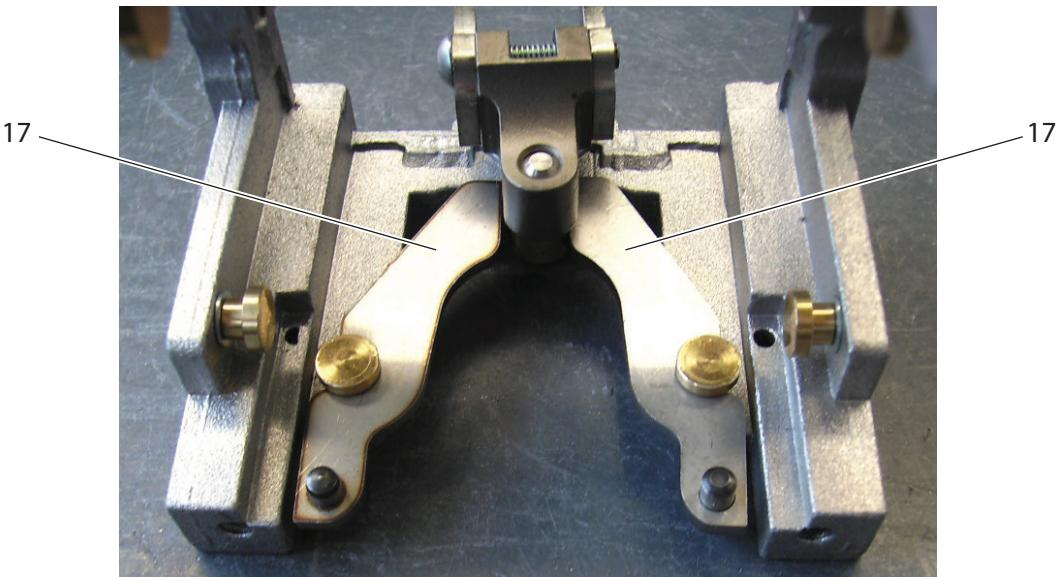

Figure 28. Joystick VNS0 – fitting spring return arms
3. Fit the spring return arms (**17**) as per Figure 28 "Joystick VNS0 – fitting spring return arms", page 75.